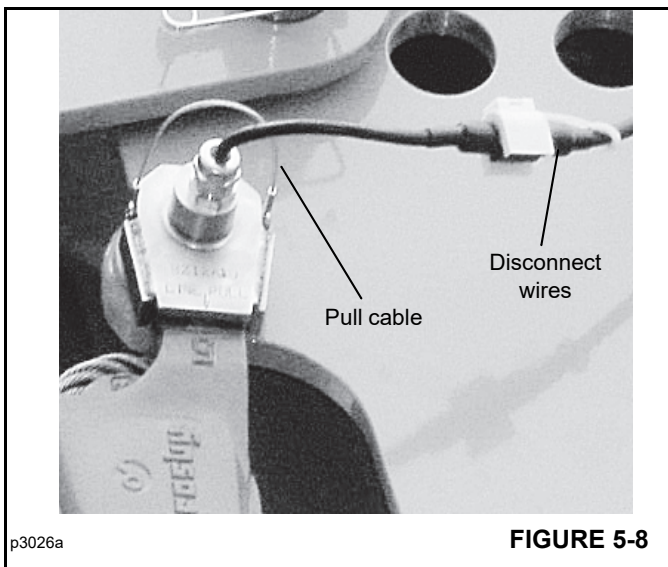

FIGURE 5-8
2. Unplug the wedge socket pin wire from the transmitter wire (Figure 5-8).
3. Remove the pin (Figure 5-8) securing the rope wedge socket to the boom head by using the pull cable, not the socket pin wire. Remove the wire rope dead end socket.